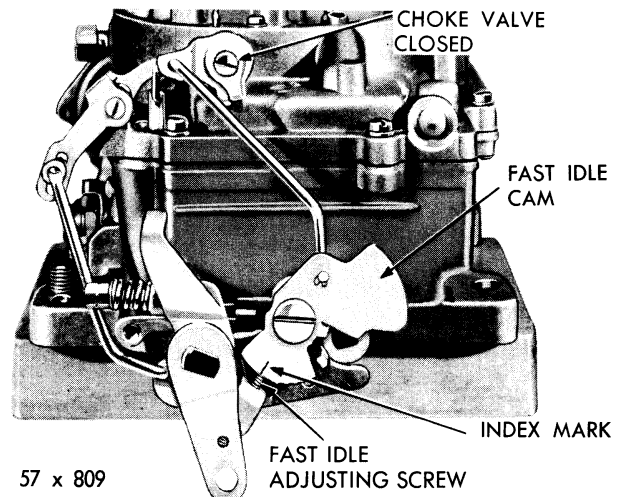

Figure 101—Checking Fast Idle Indexing
**Choke Shaft Lever Adjustment**—Invert the carburetor and open the throttle valves to wide open position. Close the choke valve tightly and then close the throttle valves. Release the choke valve. This will position the fast idle cam to fast idle. The index mark on the cam should line up with the fast idle adjusting screw, as shown in Figure 101. If an adjustment is necessary, bend the fast idle connector rod at the angle, using Tool T109-213, until the index mark on the cam indexes the fast idle adjusting screw.